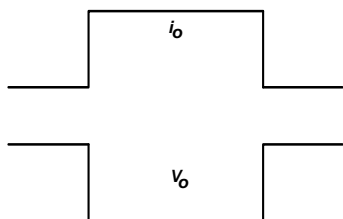
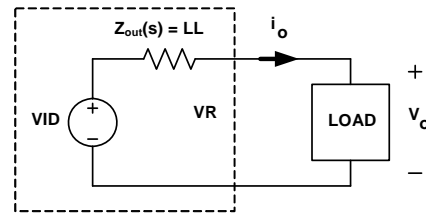

FIGURE 19. DESIRED LOAD TRANSIENT RESPONSE WAVEFORMS
FIGURE 25. VOLTAGE REGULATOR EQUIVALENT CIRCUIT
With proper compensator design, Figure 19 shows the expected load transient response waveforms. When the load current i_o has a square change, the output voltage V_o also has a square response.
Figure 19 shows the desired load transient response waveforms while Figure 25 shows the equivalent circuit of a voltage regulator (VR) with the droop function. A VR is equivalent to a voltage source (V_{ID}) and output impedance $Z_{\text{out}}(s)$. If $Z_{\text{out}}(s)$ is equal to the load line slope LL, i.e. constant output impedance, in the entire frequency range, V_o will have square response when I_o has a square change.